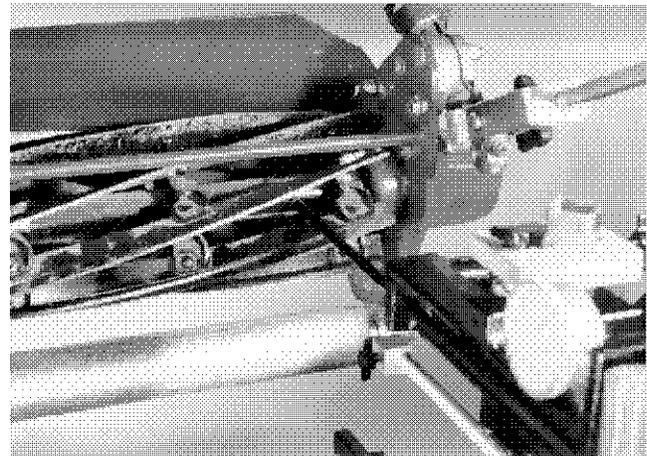

FIG. 51
- A. Move set up gauge on the right hand side of reel approximately 1" from the end. See FIG. 51.
1. With the reel set gauge still in the left hand side of the reel, turn the orange horizontal adjusting handwheel (FIG. 49) in the direction required until you match the initial indicator reading on the right hand reel position. See FIG. 51.